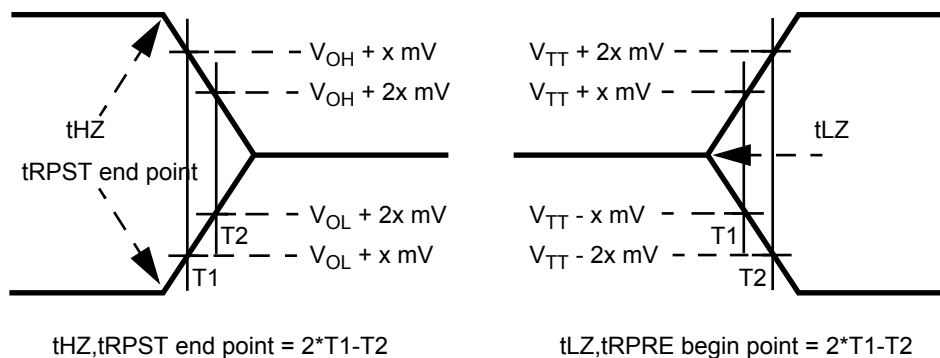

Figure 19. Method for calculating transitions and endpoints
18. tHZ and tLZ transitions occur in the same access time as valid data transitions. These parameters are referenced to a specific voltage level which specifies when the device output is no longer driving (tHZ), or begins driving (tLZ) . Figure 19 shows a method to calculate the point when device is no longer driving (tHZ), or begins driving (tLZ) by measuring the signal at two different voltages. The actual voltage measurement points are not critical as long as the calculation is consistent. tLZ(DQ) refers to tLZ of the DQS and tLZ(DQS) refers to tLZ of the (U/L/R)DQS and  $\overline{(U/L/R)DQS}$  each treated as single-ended signal.
19. tRPST end point and tRPRE begin point are not referenced to a specific voltage level but specify when the device output is no longer driving (tRPST), or begins driving (tRPRE). Figure 19 shows a method to calculate these points when the device is no longer driving (tRPST), or begins driving (tRPRE) by measuring the signal at two different voltages. The actual voltage measurement points are not critical as long as the calculation is consistent.